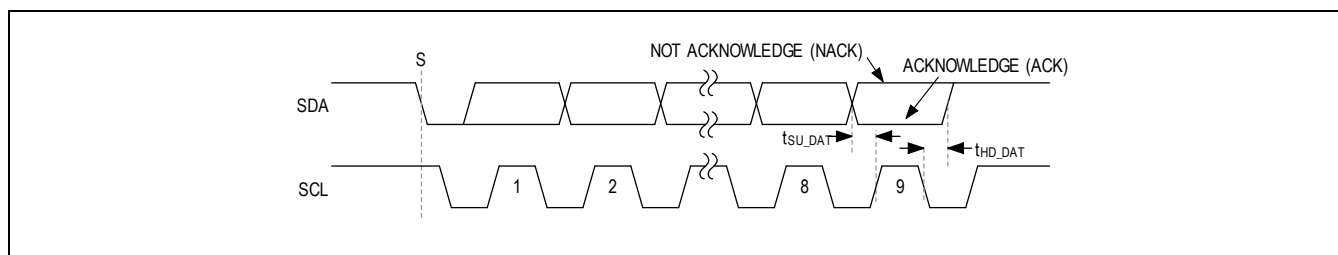

Figure 23. Acknowledge Bit
Both the I²C bus controller and devices generate acknowledge bits when receiving data. The acknowledge bit is the last bit of each ninth-bit data packet. To generate an acknowledge (A), the receiving device must pull SDA low before the rising edge of the acknowledge-related clock pulse (ninth pulse) and keep it low during the high period of the clock pulse. See Figure 23. To generate a not-acknowledge (nA), the receiving device allows SDA to be pulled high before the rising edge of the acknowledge-related clock pulse and leaves it high during the high period of the clock pulse.